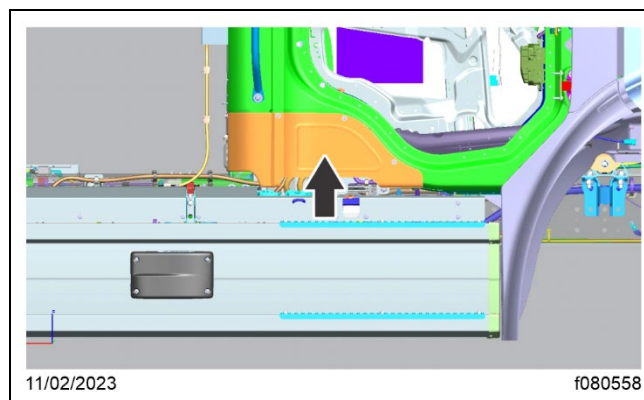

Fig. 1, Cab Close Out Panel
3. Remove the right- and left-hand side cab close out panels. See Fig. 1.